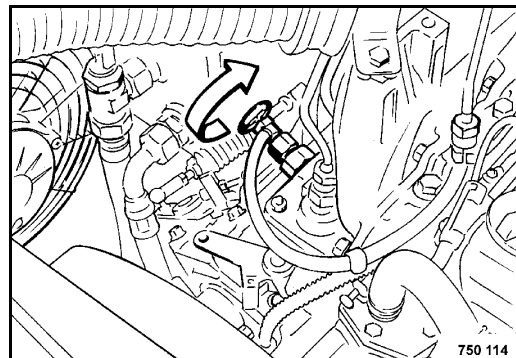

Fig. 157
- Open the bleeding screw (Fig. 157) on the top of the injection pump.